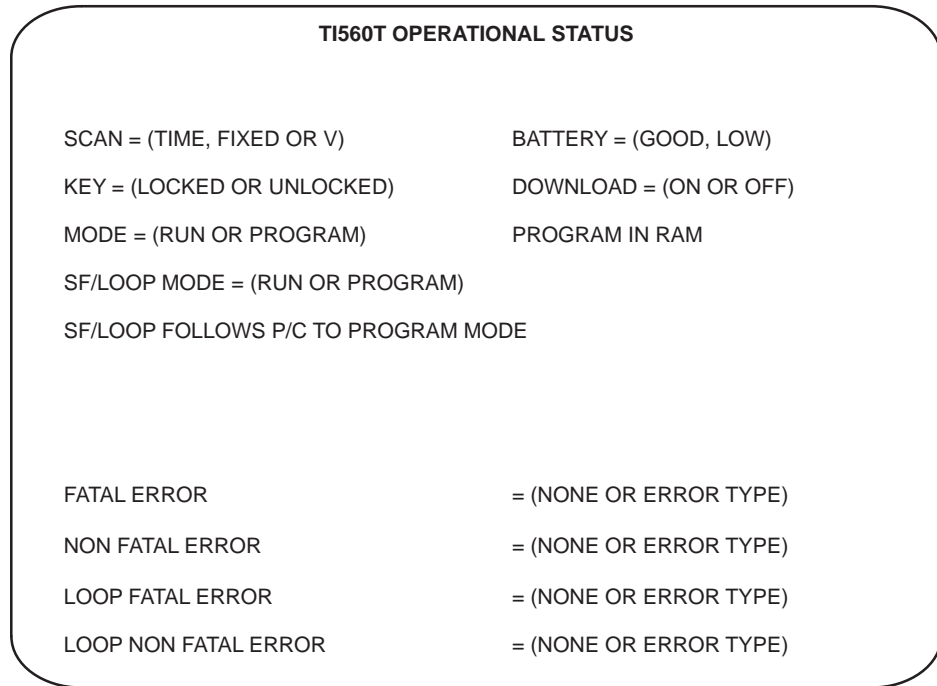

Figure 4-3 TI560T Operational Status Screen
- Show Controller Diagnostics Cell** This routine calls a display which supplies information for the items shown in Figure 4-3.